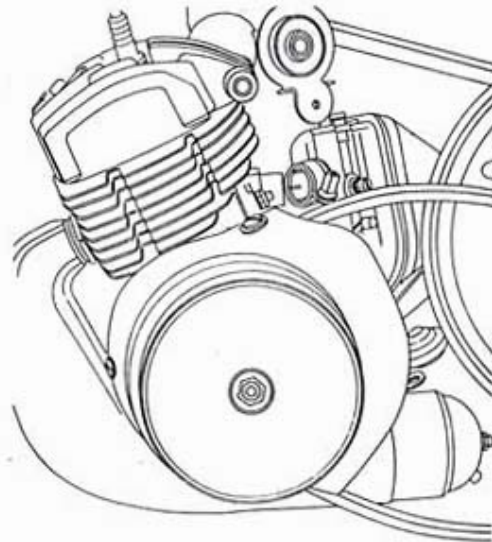

Fig. 4
- Tilt the engine and remove it (fig. 4).